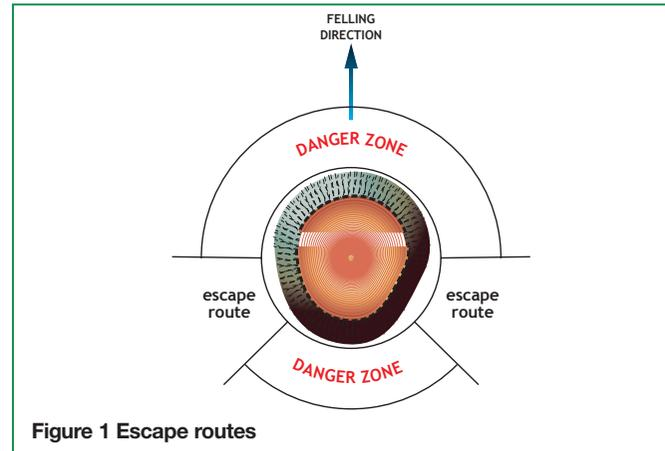

Figure 1 Escape routes
- ❑ 8 Decide the direction of fall and select a suitable escape route (see Figure 1). Ensure the escape route is clear of obstructions.